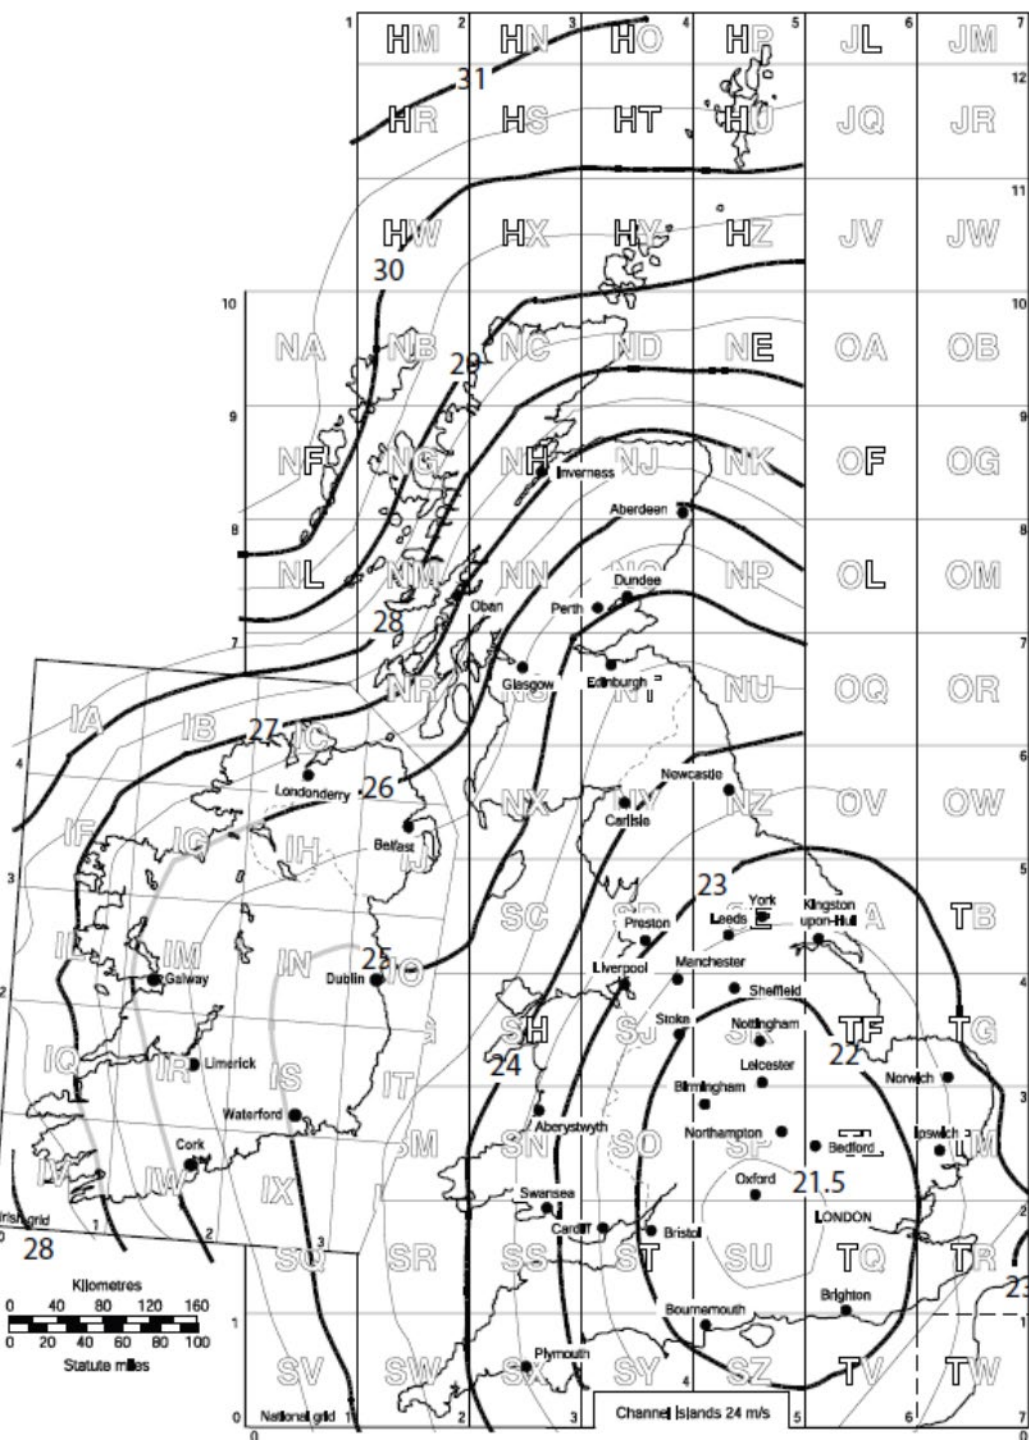

Figure NA.1
- Use Figure NA.1 from the National Annex to BS EN 1991-1-4.